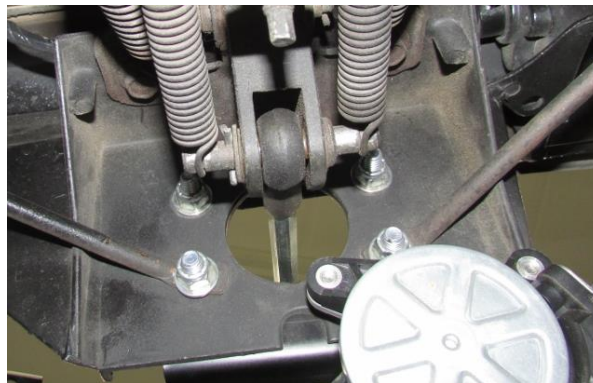

Figure 14 - Re-install Springs on Pivot Pin
14. Using a pair of needle nose pliers, re-attach the springs that were removed in step 3 back onto the pivot pin (Figure 14). **NOTE:** Wear safety glasses when re-installing the springs. Make sure the springs are in their grooves on both ends of the springs. Repeat steps 7 through 14 on the opposite side of the vehicle.